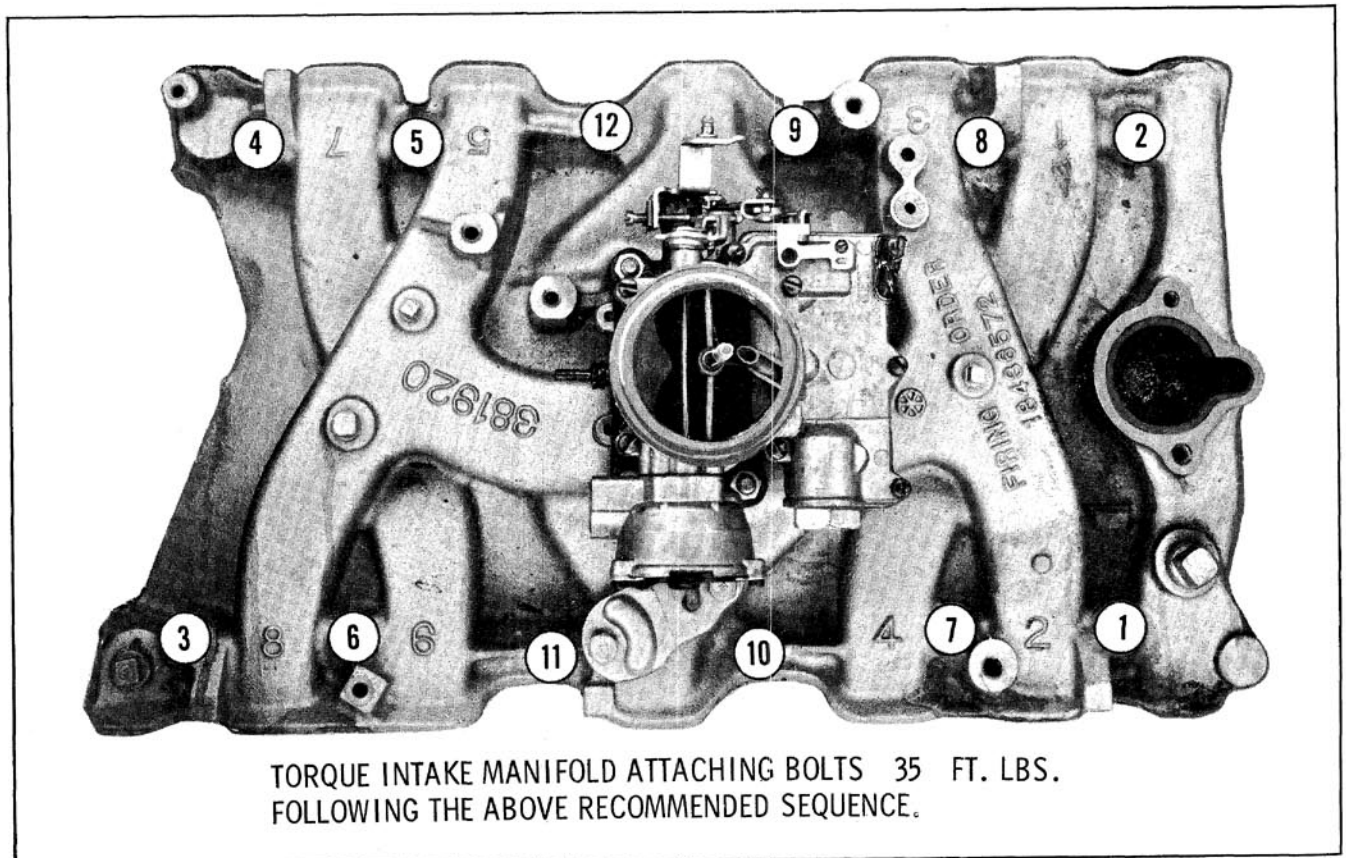

Fig. 3-53 Intake Manifold Torque Sequence
4. Install intake manifold bolts. Torque alternately to 35 ft. lbs. (Fig. 3-53) Position coil